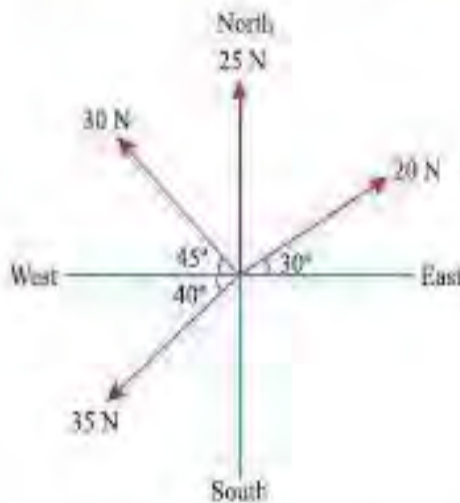

Fig. 2.6.
**Solution.** The system of given forces is shown in Fig. 2.6.